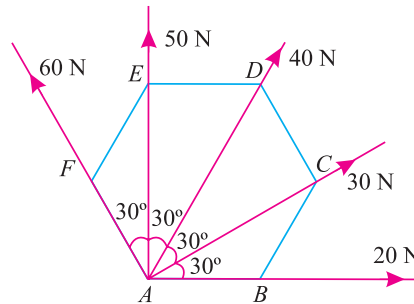

Fig. 2.5.
**Solution.** The system of given forces is shown in Fig. 2.5